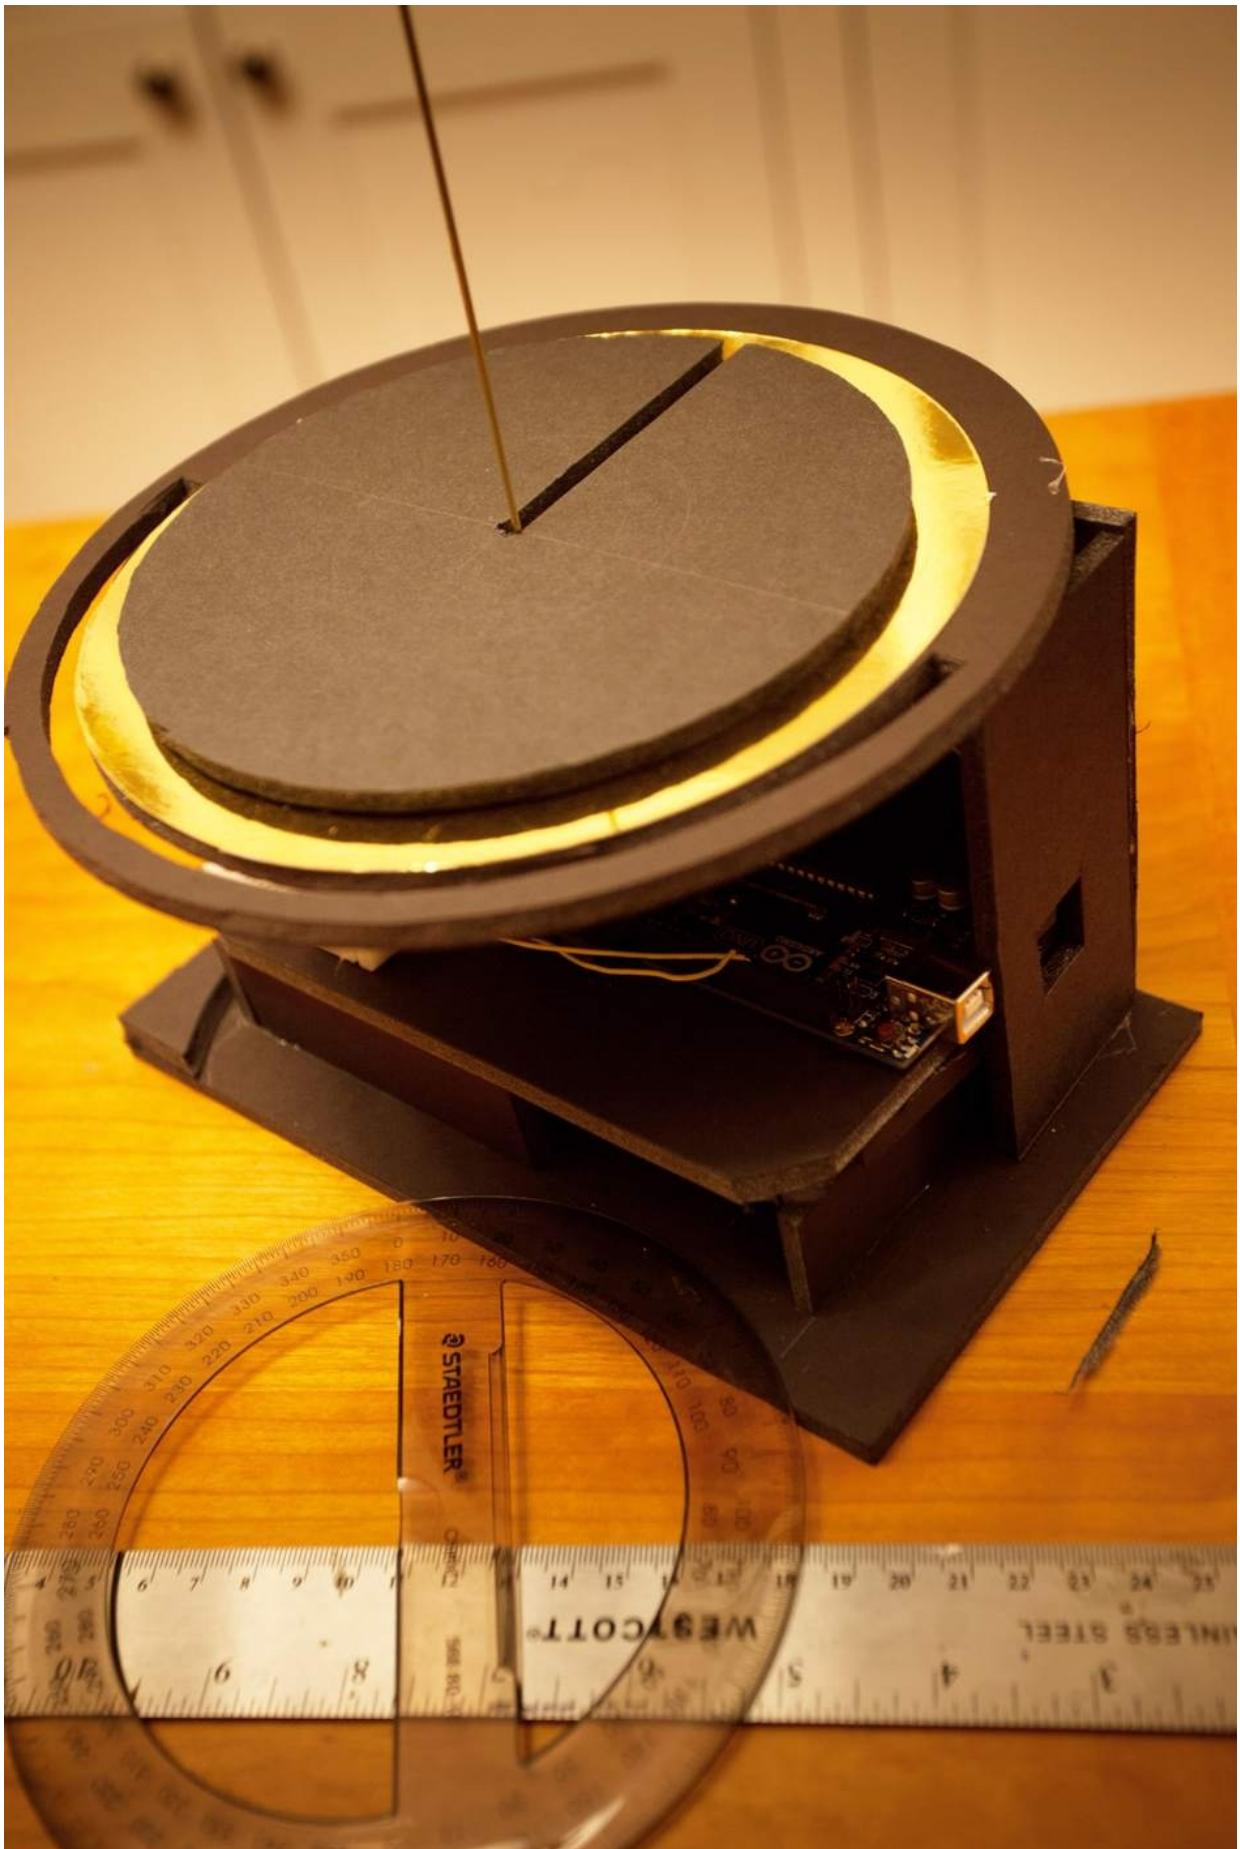

Figure 7-8. Finding the center and placing the guides for the base disk
4. Use a thin rod or awl through the base disk’s center to align it with the shaft of the azimuth servo, as in Figure 7-8.